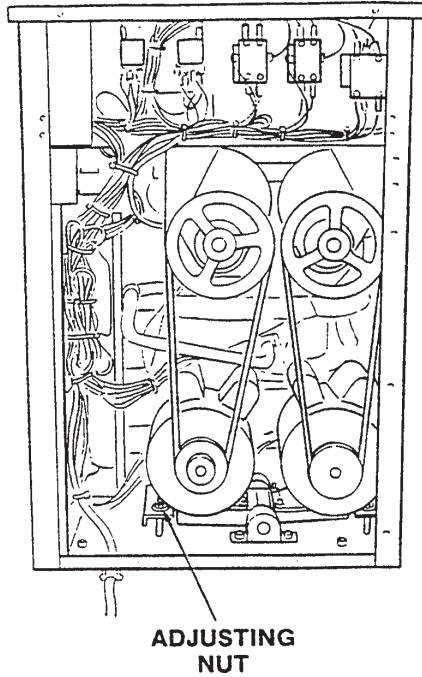

Figure 65. Drive Belt Removal
1. Loosen the belt tension adjusting nut and remove the drive belt (Figure 65).